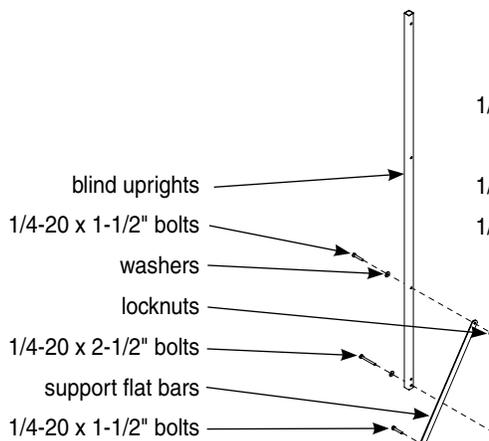

FIGURE 4
- Attach remaining (2) blind uprights (TWR18) to the outside platform joiners using (2) provided 1/4-20 x 2-1/2" bolts, locknuts and washers. **SEE FIGURE 4.**